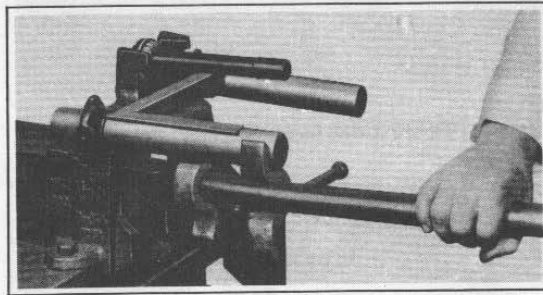

Figure 2-52. Bending Bracket Legs Parallel
5. Use a square to check if bracket assembly is bent, distorted or out of parallel on a horizontal plane as shown in Figure 2-52. Place bracket and bar assembly in a heavy vise and straighten using the Bending Bar.